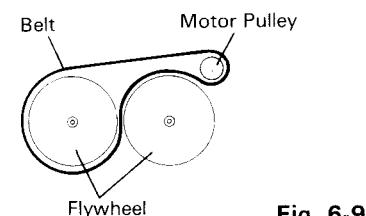

Fig. 6-9
- The capstan motor and flywheel ass'y can be replaced by this procedure. (Fig. 6-9)